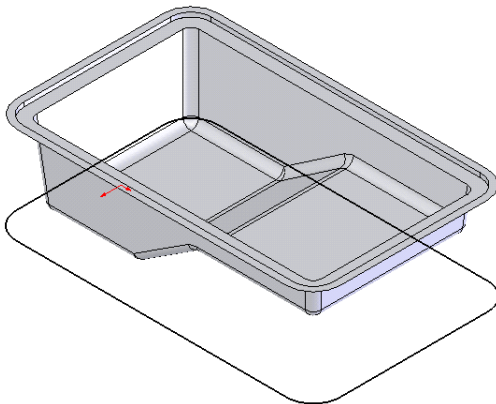

Figure 17-40 Sketch for the Cavity Plate
8. Create the sketch for creating the solid cavity as shown in Figure 17-40.